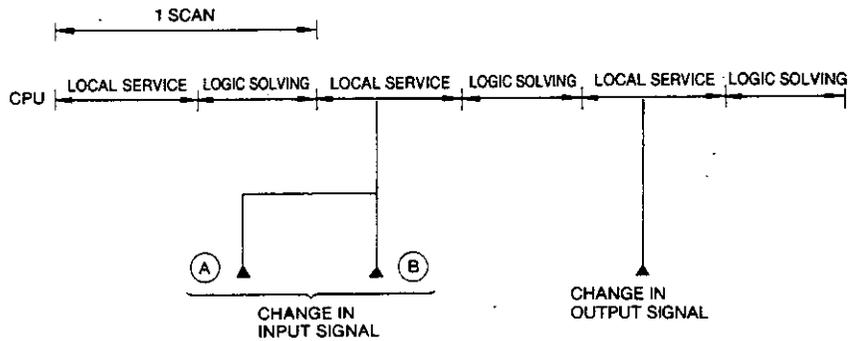

Fig. 4.3 I/O Timing of Local I/O Channel
If the change in input signal occurs near (A), shown in Fig. 4.3, a maximum delay of 1 scan occurs but the delay time becomes minimum if it occurs near (B).